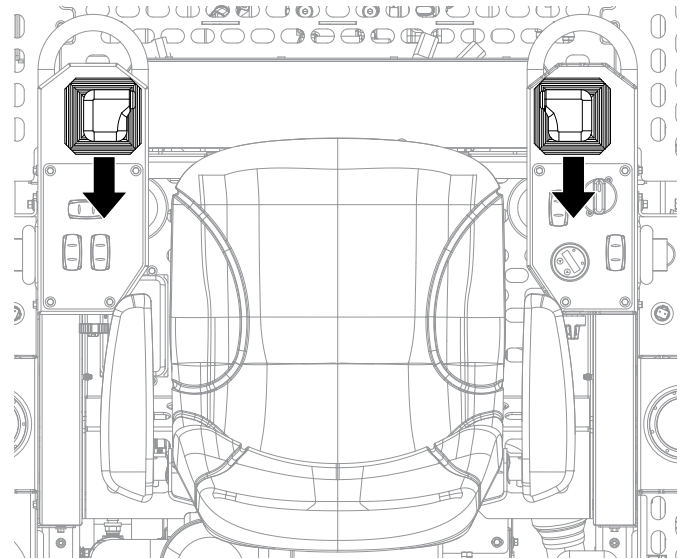

Figure 33. Joysticks (Reverse)
6. Pull both the left and right joysticks **backward** (Figure 33) and repeat steps 2 through 5 while substituting the word 'reverse' for 'forward'.